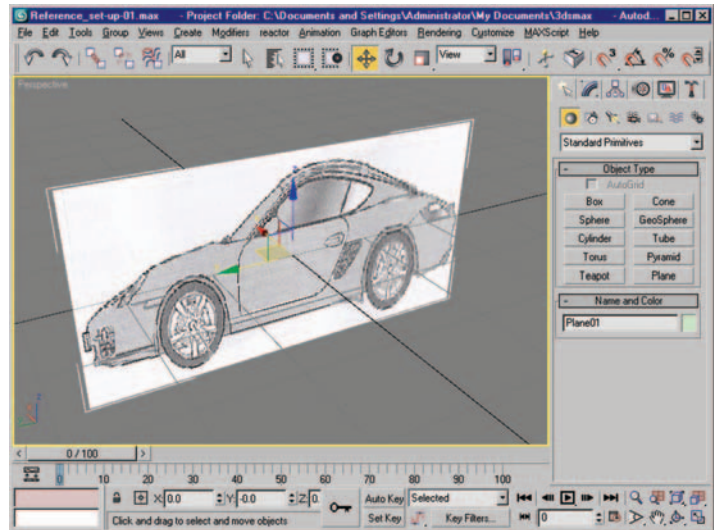

Figure 7.11 Plane object with the side image mapped to it in the viewport.
8. You will notice that your plane object has changed color, but isn't displaying the BP_side image. In the Material Editor, click the Show Map in Viewport button (checked box below the material slots). Your plane should now be showing the side blueprint image mapped on the plane. Figure 7.11 shows the plane with the image displayed on its surface.